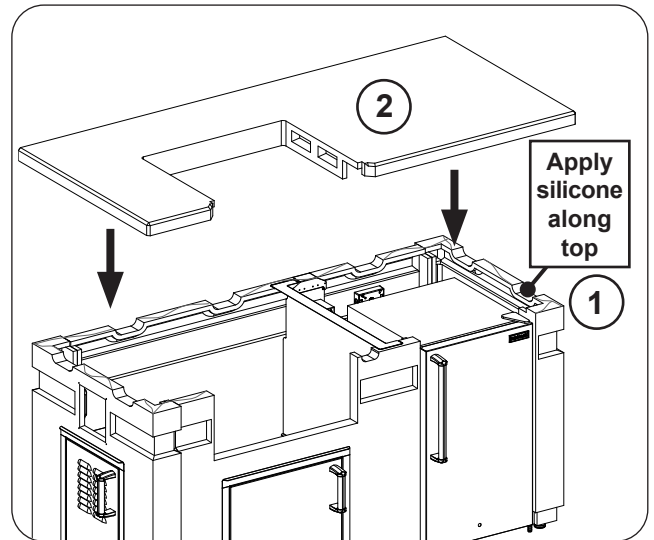

Fig. 13-1 Place countertop
1. Apply silicone along the top of the island (see Fig. 13-1, step 1).
2. Place the countertop onto the island as shown in Fig. 13-1, step 2. (Be sure to align the cutout in the countertop with the opening in the front wall.)